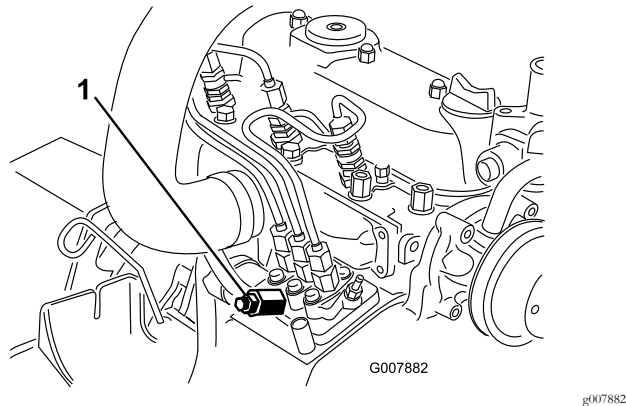

Figure 41
3. Place a rag under the air-bleed screw on the fuel-injection pump and open it (Figure 41).